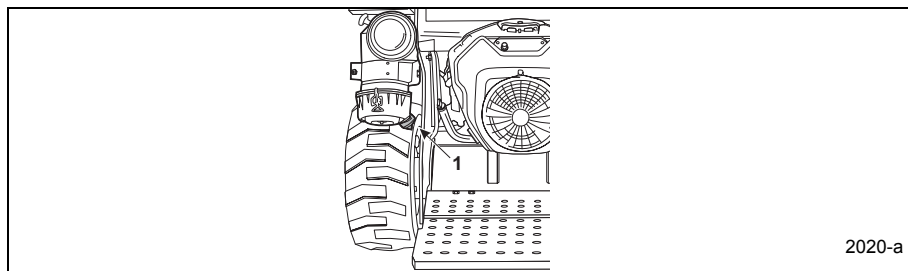

Figure 4-3 Air Filter Dirt Release
4. Release dirt from separator tube at the bottom of the air filter by squeezing the rubber dust ejector valve (Item 1, Figure 4-3) underneath the air filter.